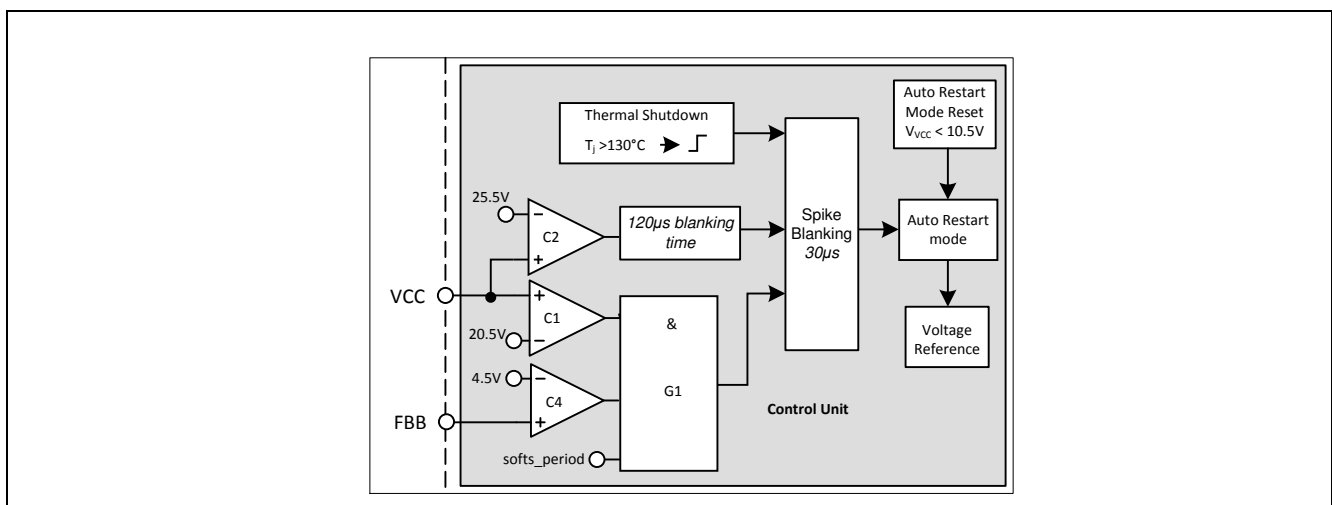

Figure 30: Vcc OVP and OTP
Vcc OVP (1) condition is when VVCC voltage is > 20.5V, VFBB voltage is > 4.5V and during soft start period, the IC enters into odd skip Auto Restart Mode. This condition likely happens during start up at open loop fault (Figure 30).
VCC OVP (2) condition is when VCC voltage is > 25.5V, the IC enters into odd skip Auto Restart Mode (Figure 30).
The over temperature protection OTP is sensed inside the controller IC. The Thermal Shutdown block keeps on monitoring the junction temperature of the controller. After detecting a junction temperature higher than 130°C, the IC will enter into the non switch Auto Restart mode. The ICE3AR1080VJZ has also implemented with a 50°C hysteresis. That means the IC can only be recovered when the controller junction temperature is dropped 50°C lower than the over temperature trigger point (Figure 30).